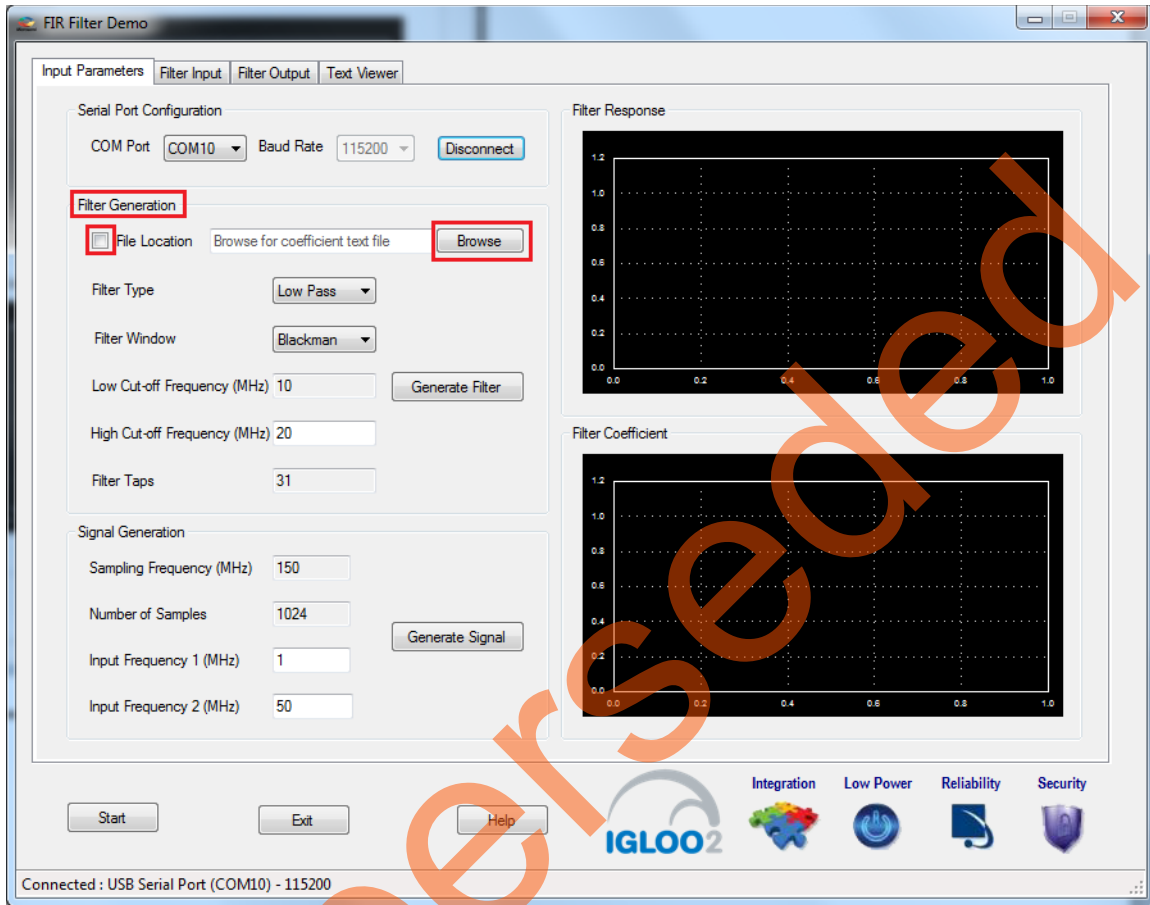

Figure 11 • Filter Generation - 1
- Generate the coefficients using MATLAB or any similar tool and save it as a text file (Refer to "Appendix 3: Coefficient Text File Format" on page 31 for the format of the text file). The GUI can be used to browse and load this file. Refer to Figure 11.